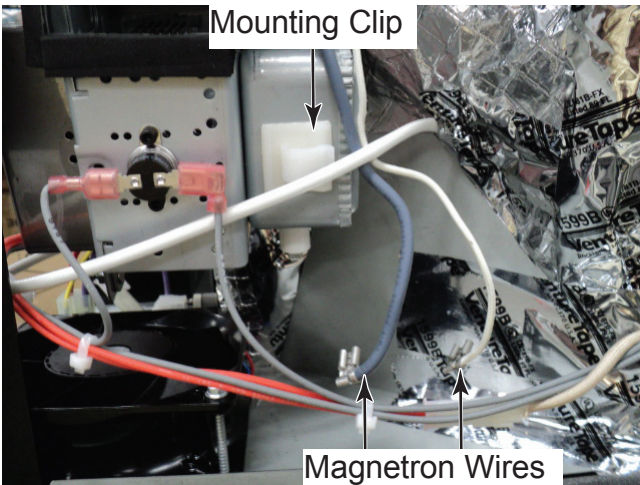

Figure 5
6. Remove wires from the right side magnetron terminals and plastic mounting clip that is attached to the magnetron (Figure 5).